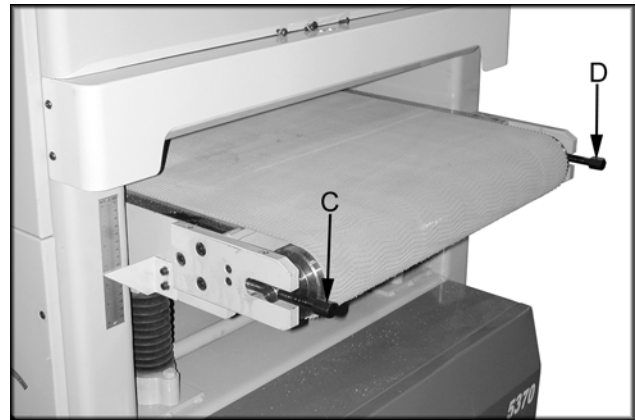

Figure 19
3. If conveyor drifts to the left rotate tracking bolt (C, Figure 19) clockwise a 1/2 turn. The adjustments are not noticeable right away due to the slow speed the conveyor travels.
4. If conveyor drifts to the right rotate tracking bolt (D, Figure 19) clockwise a 1/2 turn. The adjustments are not noticeable right away due to the slow speed the conveyor travels.